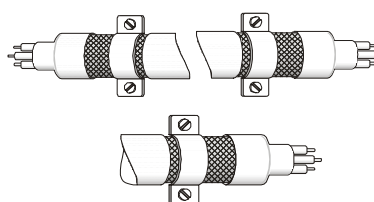

Fig. 2
4. It should have correct connection between the braided shielding of the motor cable and the metal plate. The braided shielding on both sides of the motor cable should be fixed by the U-shape saddle and metal plate. Please see Fig. 2 for the correct connection.